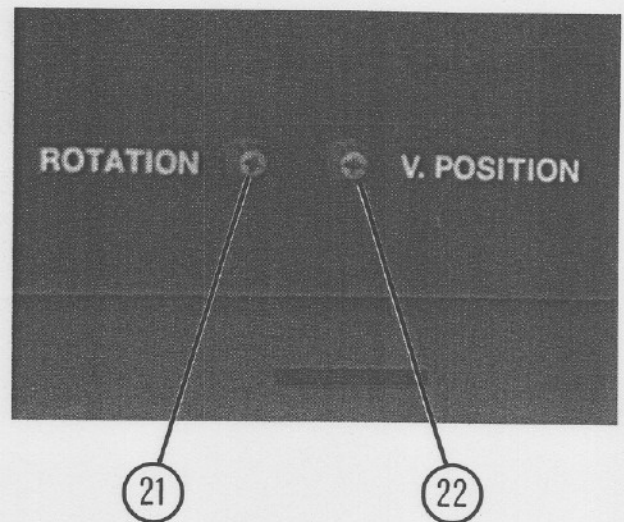

Figure 2-3. Side view, waveform monitor side
Refer to Figure 2-3 for references (21) and (22).
- ②① ROTATION control Provides screwdriver adjustment of horizontal trace alignment with regard to the CRT graticule lines.
- ②② V. POSITION control Provides screwdriver adjustment of vertical position of the waveform display. Set to align video blanking with the 0 IRE line on the graticule.